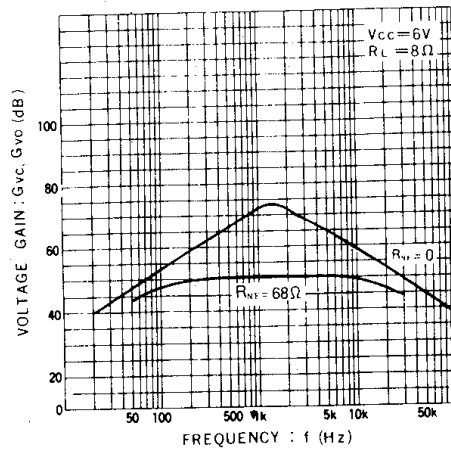

Fig. 5 Output power and total harmonic distortion vs. supply voltage
1. Delivers 350mW (THD = 10%) of output power to a 8Ω load with 6V operation (see Fig. 5).